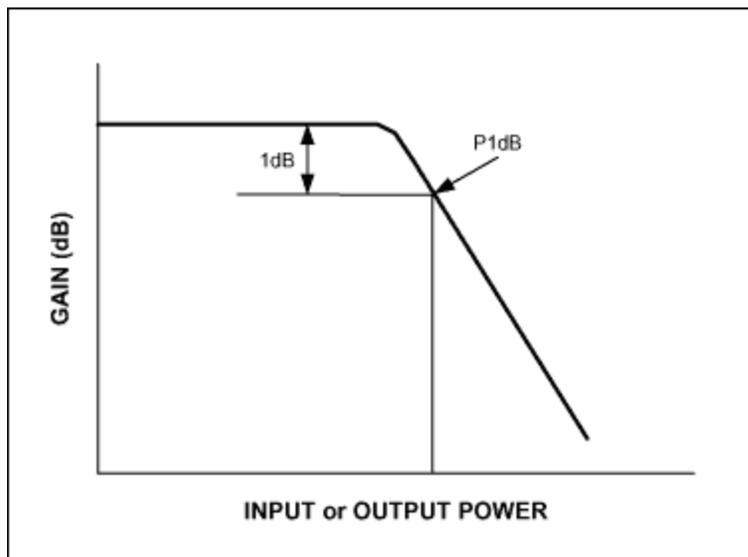

Figure 2. Gain vs. input power plot of a component (amplifier or mixer). The gain is lowered at high output power because the output is saturated.
**1dB Compression Point ( $P_{1\text{dB}}$ )** is a figure-of-merit for output power. Higher compression point means higher output power.  $P_{1\text{dB}}$  is at an input (or output) power such that the gain is lowered by one dB when compared to the gain at very low power. Refer to **Figure 2**, gain vs. input power plot. Note how the gain is lowered as the input power is increased. This is because the output saturates at its maximum and no further increase in power is possible. The 1dB compression point can be specified at the input or output. For example, if the output  $P_{1\text{dB}}$  specification is +20dBm, the output power for this component is about +20dBm. Reducing the output power from  $P_{1\text{dB}}$  will reduce distortion.